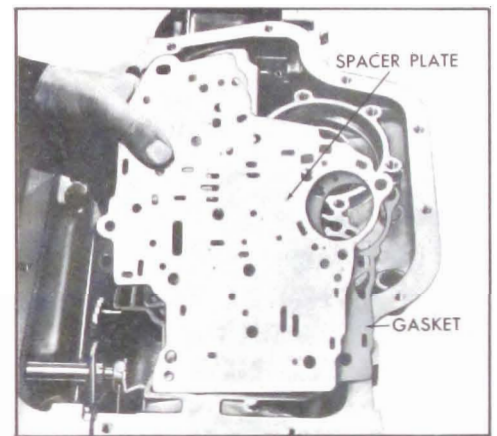

Figure 5-523
8. Remove the control valve assembly spacer plate and gasket. See Figure 5-523.